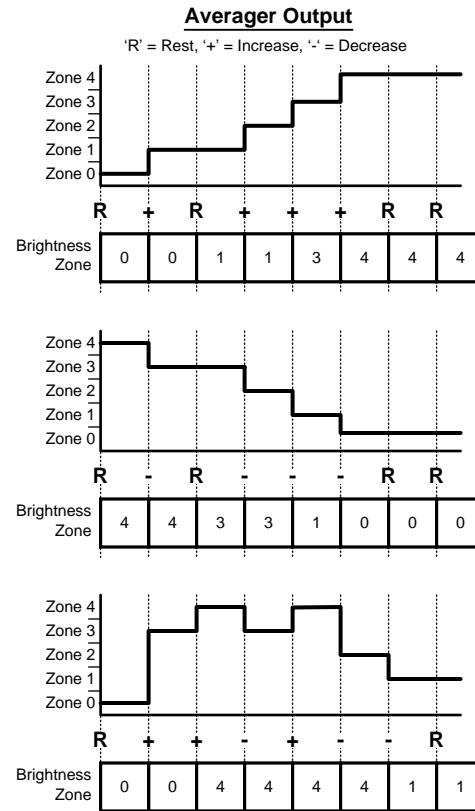

Figure 29. Brightness Zone Change Examples
5. To Increase the brightness zone, the Averager output must have increased for at least 2 averaging periods or increased and remained at the new level for at least two averaging periods ('+' to '+' or '+' to 'Rest' in Figure 29).
6. To decrease the brightness zone, the Averager output must have decreased for at least 2 averaging periods or decreased and remained at the new level for at least two averaging periods ('-' to '-' or '-' to 'Rest' in Figure 29).
In the case of two consecutive increases or decreases in the Averager output, the LM3530 will transition to zone equal to the last averager output (Figure 29).